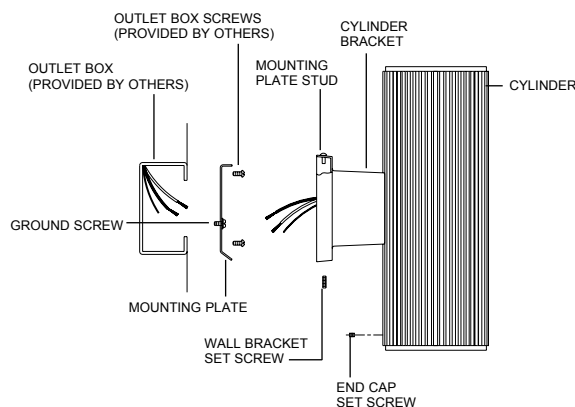

FIG. 1
1. Detach mounting plate from cylinder bracket by loosening set screw (Fig.1). Allen key is provided.
2. Secure mounting plate to outlet box with screws from outlet box (Fig.1).
3. Hang fixture on mounting plate by the mounting plate stud (Fig.1).
4. Make electrical connections. Splice black supply lead to black fixture lead and white supply lead to white fixture lead. Secure fixture ground wire and supply ground wire to ground screw (Fig. 1).
5. Secure the fixture in place by tightening the set screw (Fig. 1).